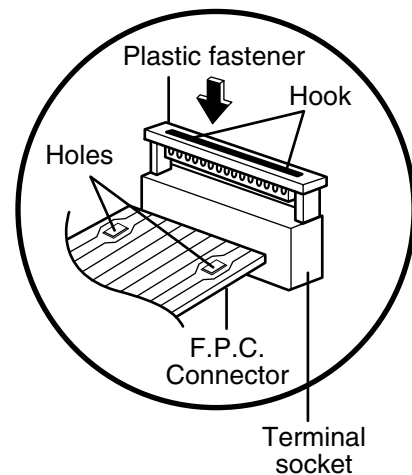

Figure 6
Follow the steps below as illustrated in Figures 6 and 7 to insert the F.P.C.connector.
- (1) Insert the F.P.C.connector into the terminal socket securely with the fingers.
- (2) Hold the plastic fastener with thumb and forefinger of the other hand, and push it slowly into the terminal socket. (Figure 6)
- (3) Lock the level of the plastic fastener into the hook of the terminal socket securely by releasing the fingers.